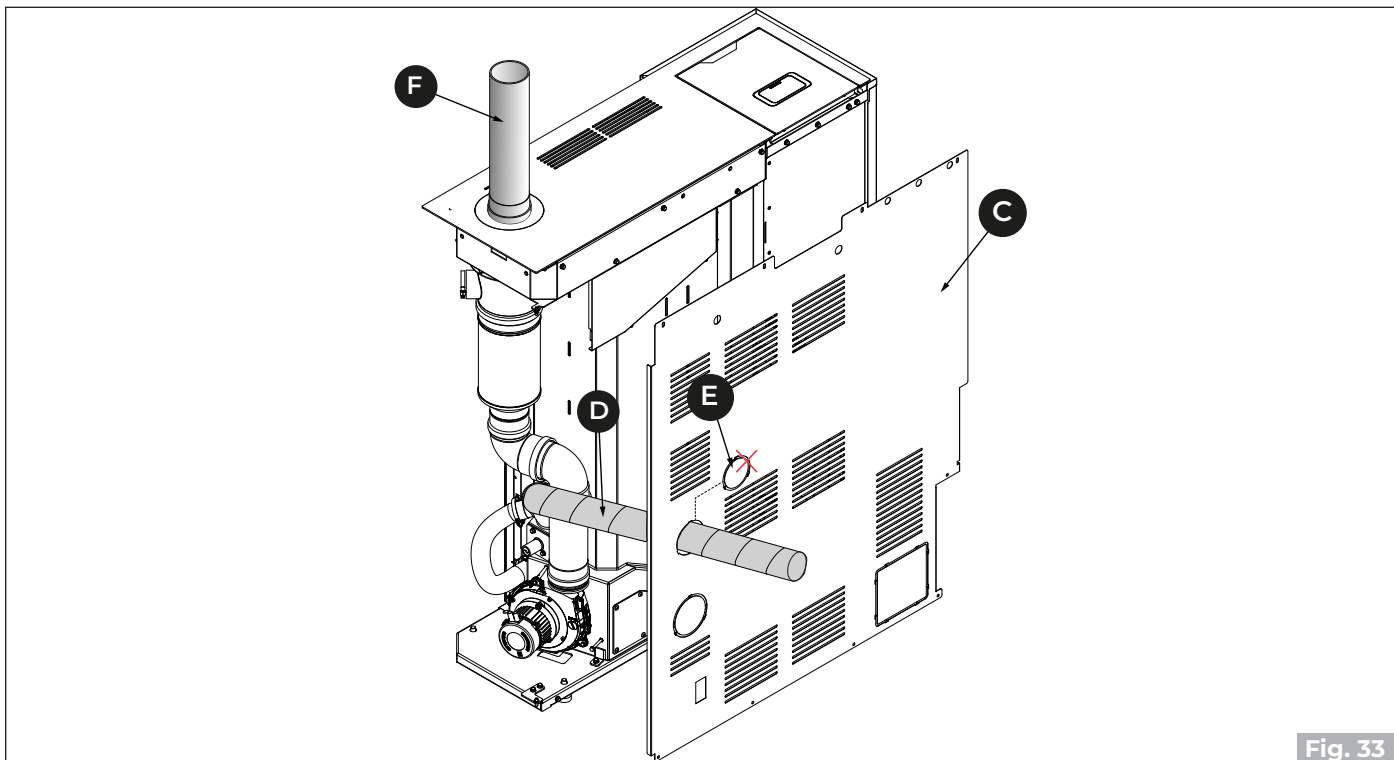

Fig. 33
- Connect the flue gas outlet pipe **(F)** ("Fig. 33").